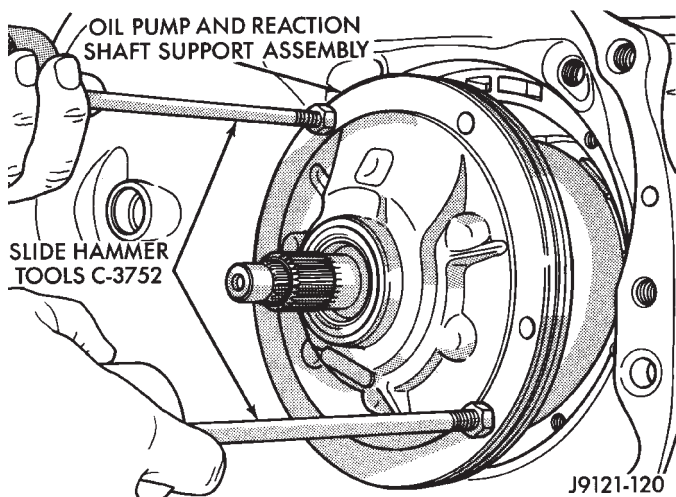

Fig. 14 Removing Oil Pump And Reaction Shaft Support Assembly
(21) Thread bolts of Slide Hammer Tools C-3752 into threaded holes in pump body flange (Fig. 14).
(22) Bump slide hammer weights outward to remove pump and reaction shaft support assembly from case (Fig. 14).
(23) Loosen front band adjusting screw until band is completely loose.